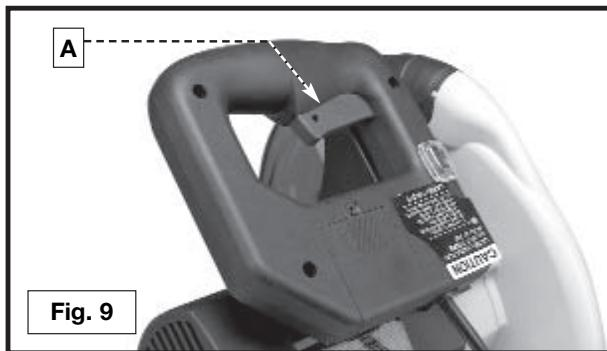

Fig. 9
To start the miter saw, depress the switch trigger (A) Fig. 9. To stop the miter saw, release the switch trigger.
This saw is equipped with an automatic electric blade brake. As soon as the switch trigger (A) Fig. 9 is released, the electric brake is activated and stops the blade in seconds.
**WARNING** A turning saw blade can be dangerous. After completing the cut, release the switch trigger (A) Fig. 9 to activate the blade brake. Keep the cuttinghead down until the blade has come to a complete stop.